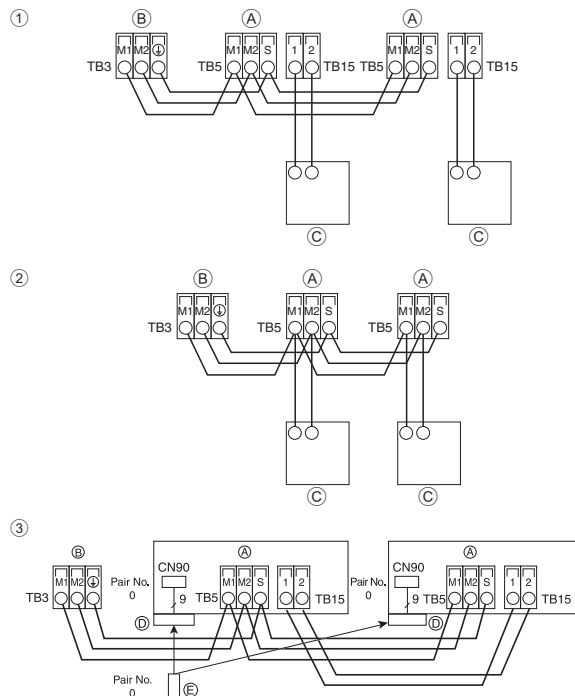
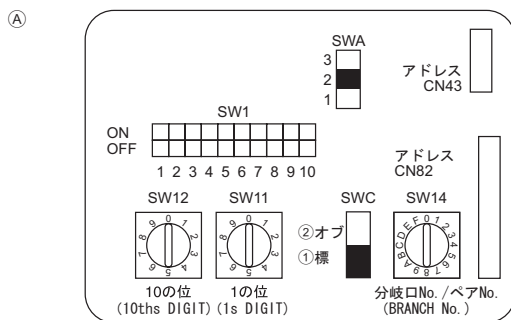

Fig. 6-3
Fig. 6-4
6.4. Connecting remote controller, indoor and outdoor transmission cables (Fig. 6-3)
- ① MA Remote controller
- ② M-NET Remote controller
- ③ Wireless remote controller(When installing wireless signal receiver)
- ① Terminal block for indoor transmission cable
② Terminal block for outdoor transmission cable(M1(A), M2(B), Ⓢ(S))
③ Remote controller
④ Wireless signal receiver
⑤ Wireless remote controller
6.5. Setting addresses (Fig. 6-4)